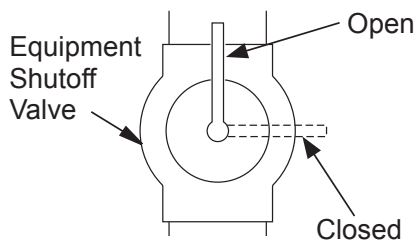

Figure 14 - Equipment Shutoff Valve
1. Close equipment shutoff valve (see **Figure 14**).
1. Open equipment shutoff valve (see **Figure 14**).